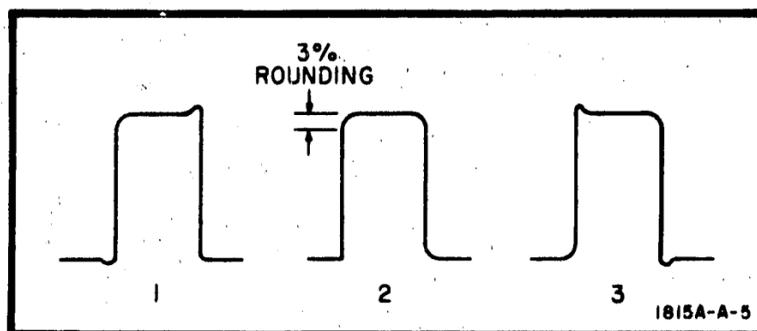

Figure 5-12. Low-frequency Distortion Waveforms
g. Adjust capacity C3 (machine screw) on the remote sampler for a display of pulse shape most like waveform 2 of Figure 5-12. Do not run the screw in to where it breaks the pickoff assembly.